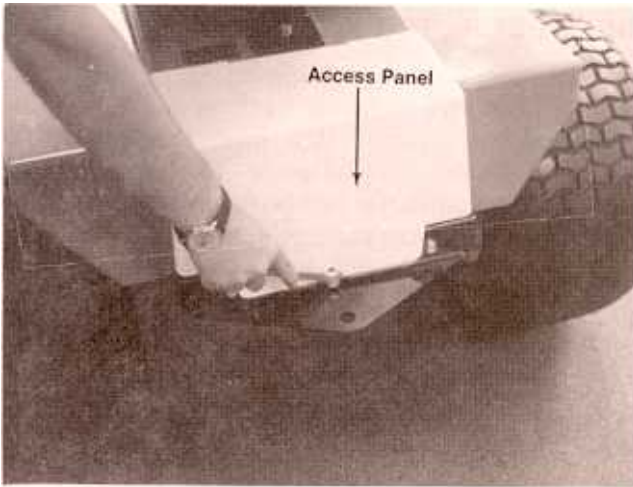

FIGURE 5. REMOVE BATTERY ACCESS PANEL
- 1. Remove the access panel on rear of rider. See figure 5.